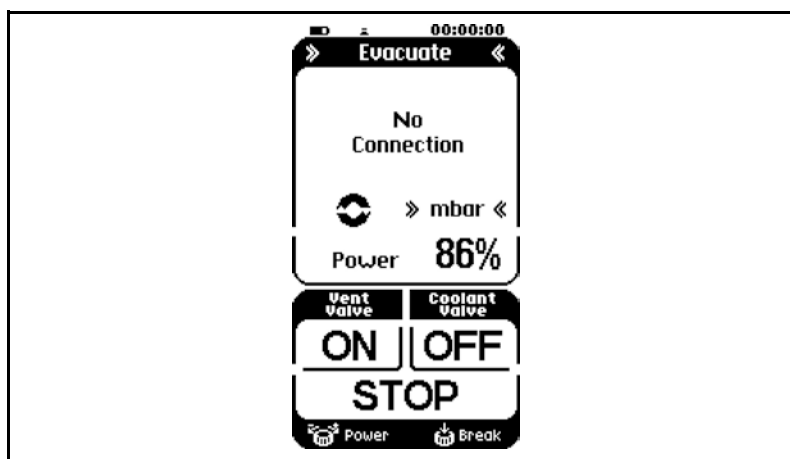

Fig.16 : Display "No connection"
- The message "No connection" will flash in the hand terminal's display (see Fig.16);